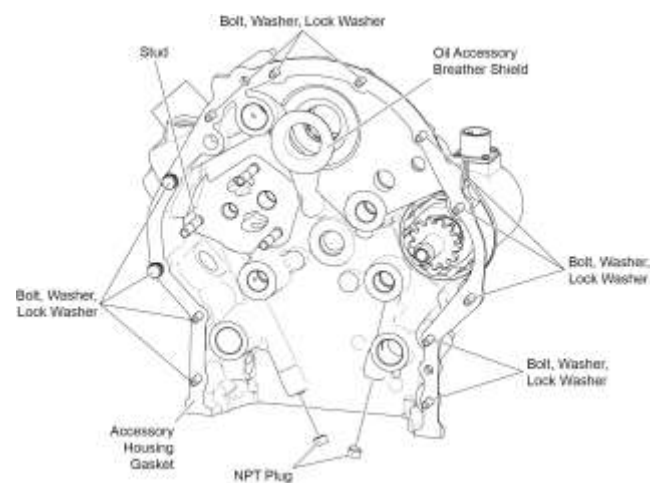

Figure 2
- K. Remove and discard the accessory housing gasket (Figure 2).